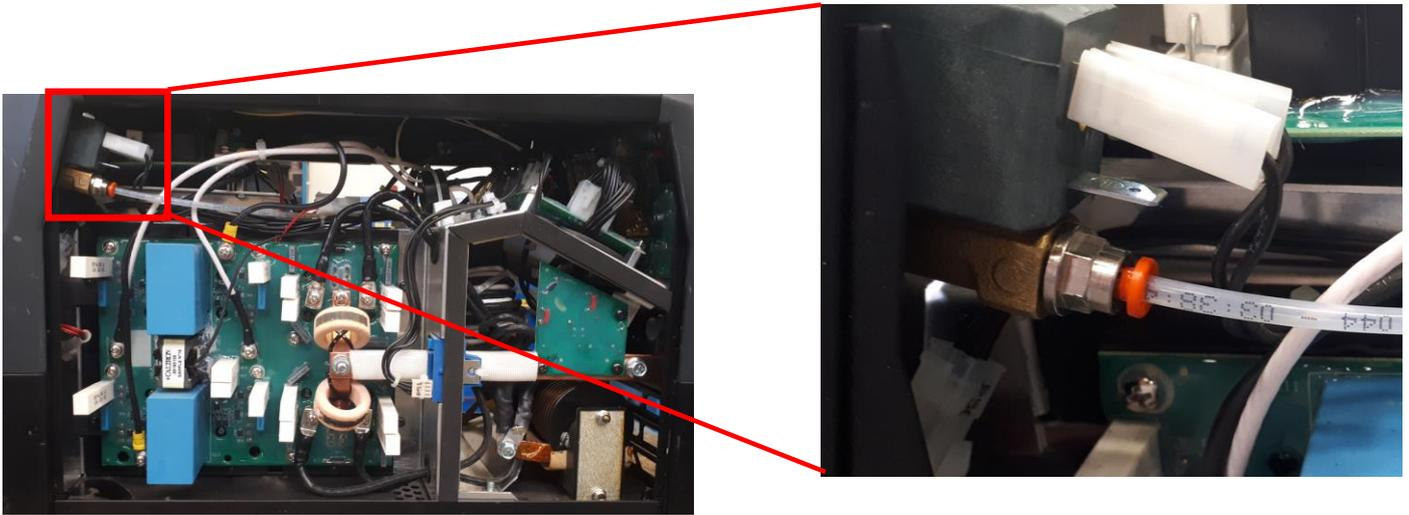

Figure 6 – Switch board J26 location
3. Locate the gas solenoid location inside the machine. See **Figure 6**.